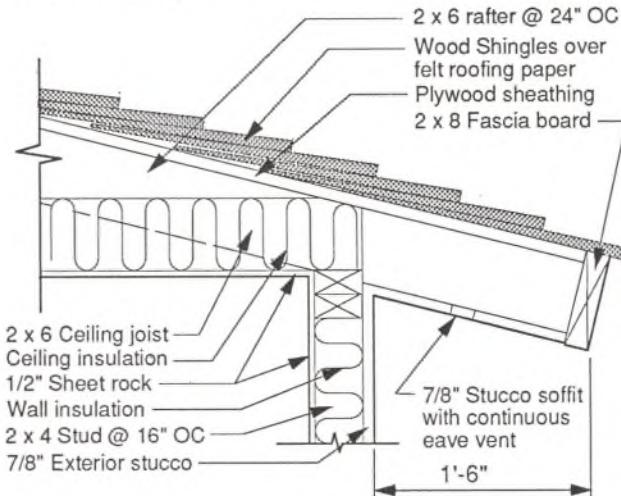

Fig. 23.7 Detail showing stucco soffit with continuous eave vent, insulation, and roof framing.
10. Eave details, such as those shown in Fig. 23.7, can be placed either on the roof-plan sheet or on the sections and details sheet.
All attics require ventilation. Ventilation can be achieved in several ways. An example showing a typical continuous eave vent is shown in the eave vent detail, Fig. 23.7.